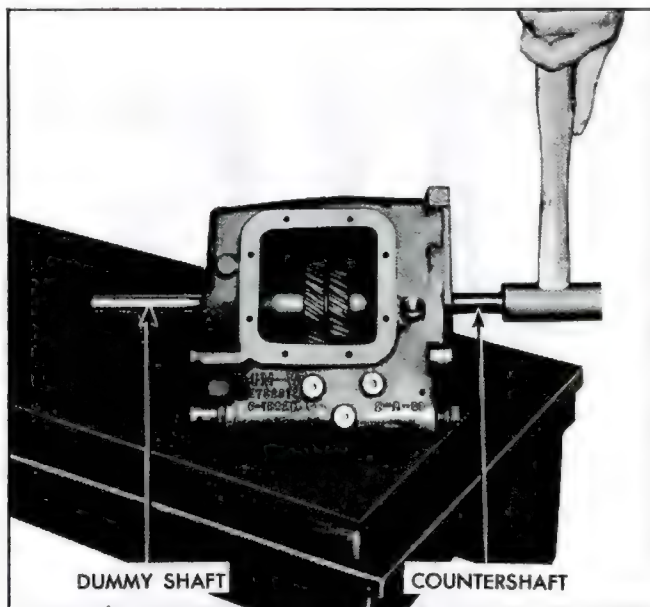

Fig. 7B-17—Installing Countergear Shaft
5. Insert the countergear with its roller bearings and dummy shaft (9/16" x 7") into the case via the rear bearing hole. Carefully lift the countergear into alignment with the countershaft holes in the case, then tap the countershaft into the gear from the rear of the case (fig. 7B-17). Use care to keep the dummy shaft constantly against the countershaft during the installation to prevent losing countergear roller bearings. Tap countershaft in until it is flush with